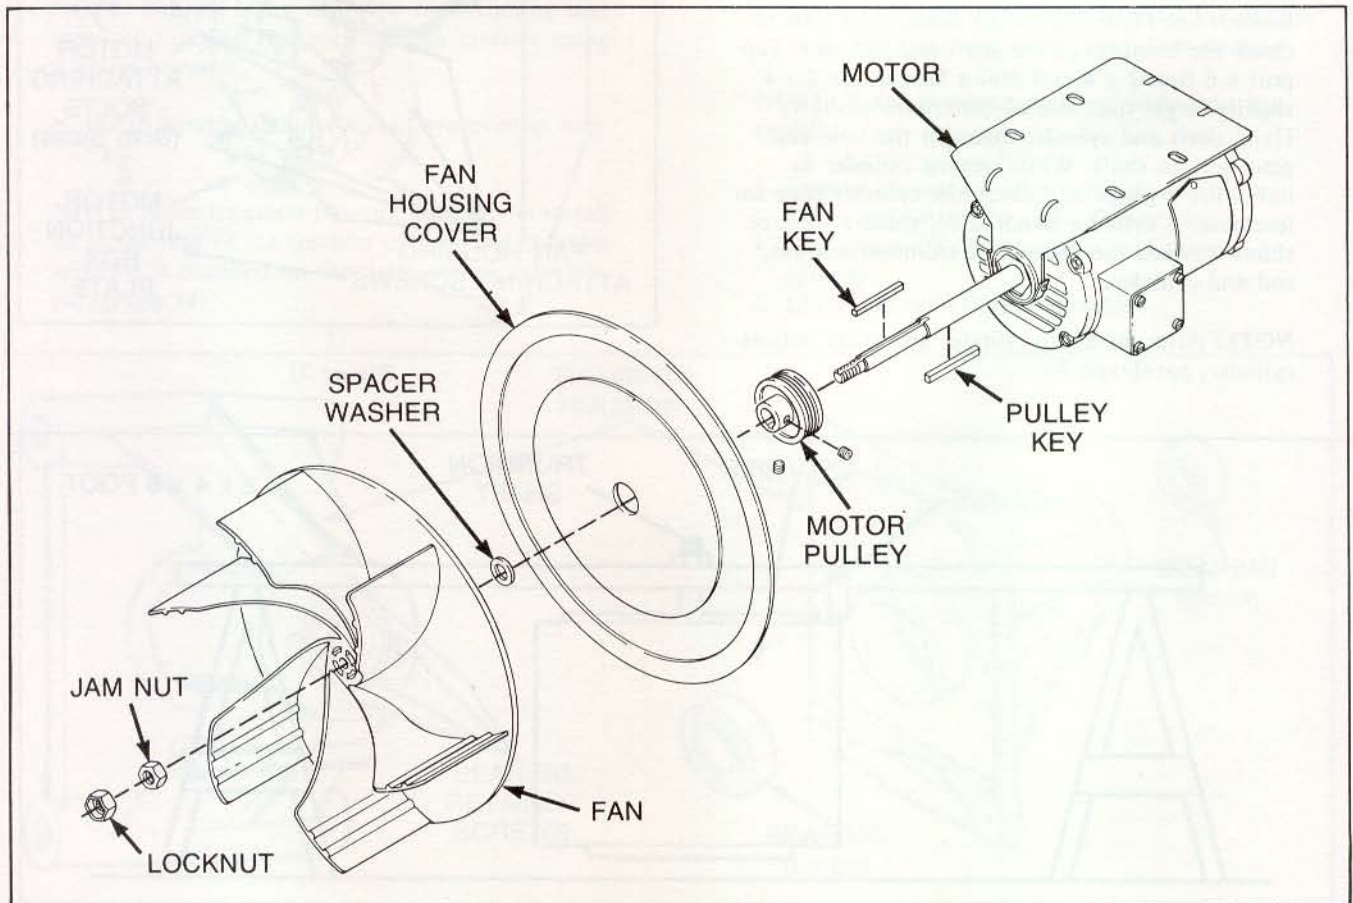

Figure 23
- l. Remove locknut and jamnut holding fan on motor shaft *Figure 23*, and pull fan off motor shaft.
- m. Remove spacer washer from motor shaft, *Figure 23*.
- o. Loosen two setscrews holding motor pulley to motor shaft, *Figure 23*.